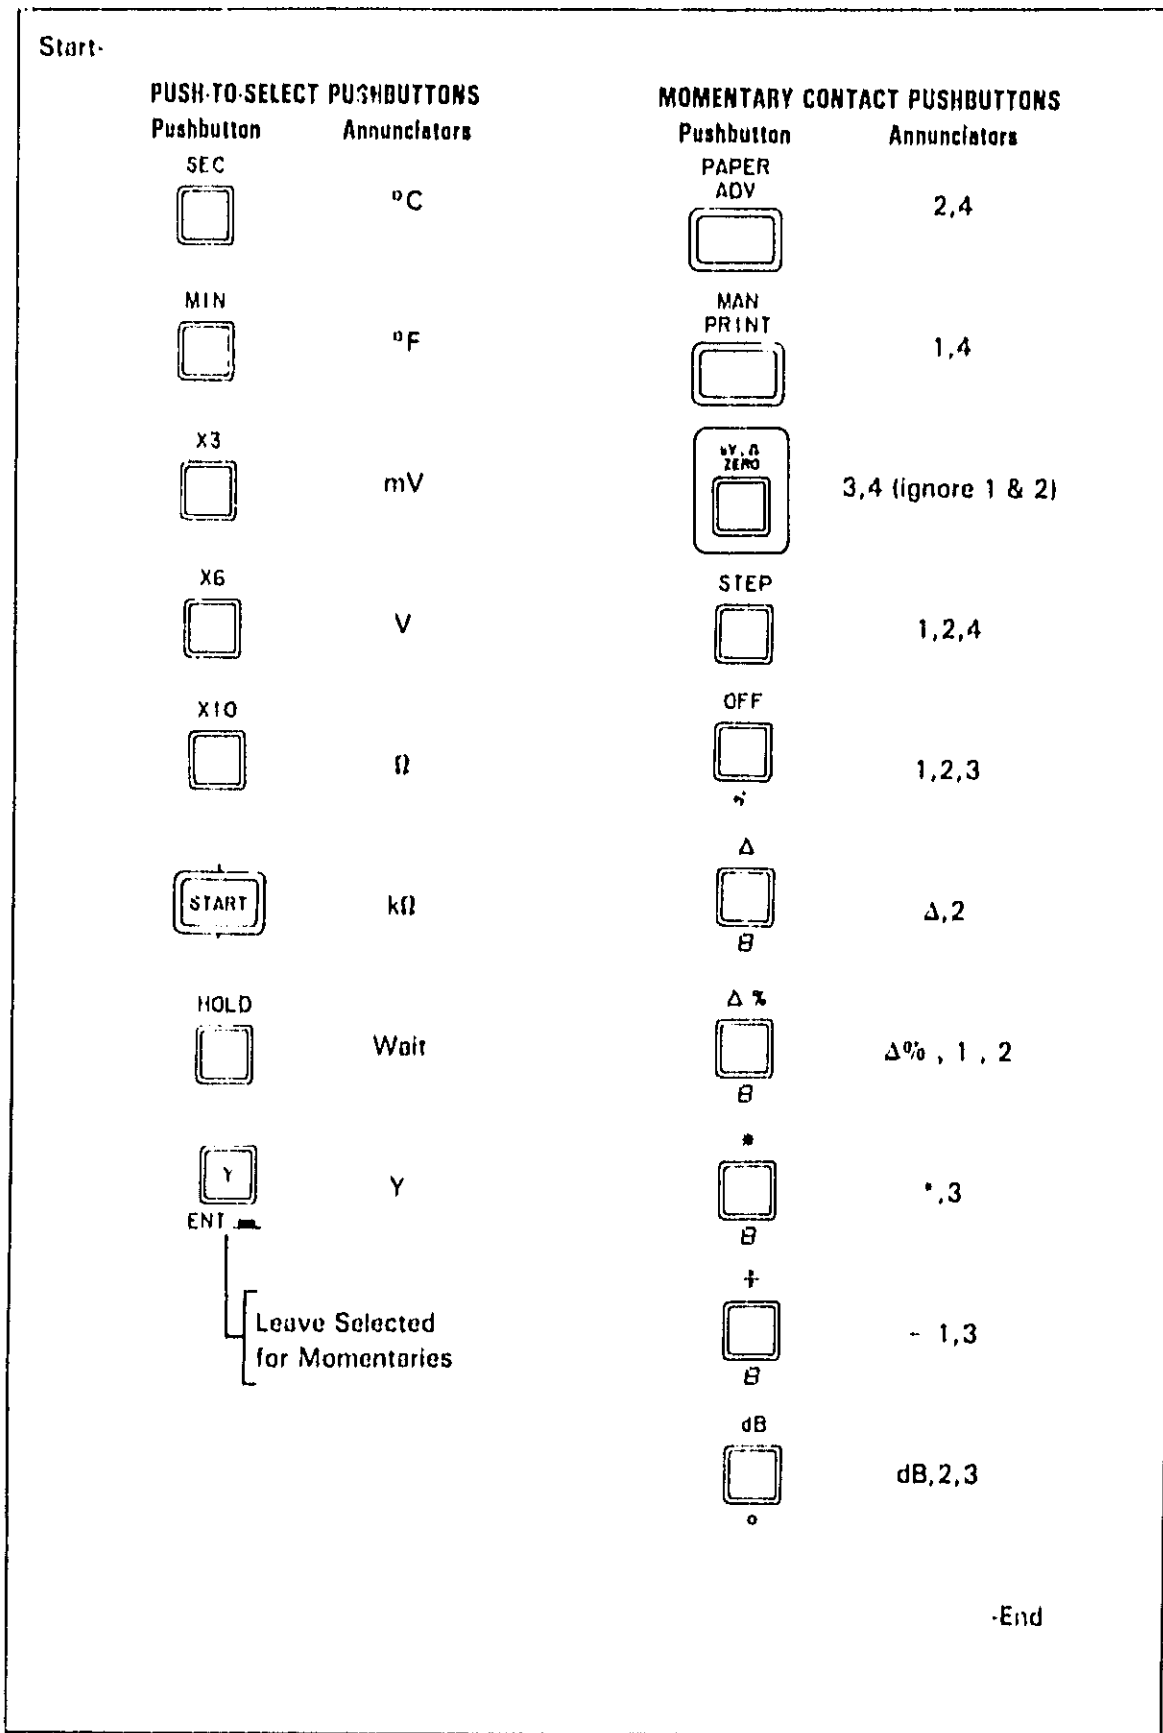

Figure 8-6. Memory And Front Panel Test Passes (No Combinations).
**8-72. Pass.** The Logging Multimeter has passed this test if the displays resulting from selecting every front panel pushbutton one at a time, and in possible combinations, are correct. Figure 8-6 shows the correct displays for this test without combinations. The display for possible pushbutton combinations should be the logical "OR" of the individual displays. (Does not apply to momentary switch combinations). An "EP" display is indicative of a passed low power memory test.